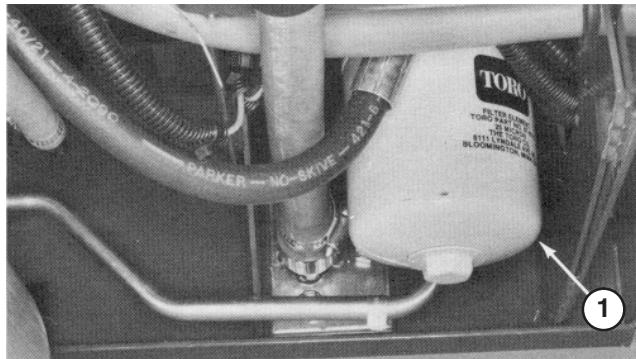

Figure 29
- Remove the oil filter (Fig. 29), mounted below control panel base, and discard the filter. Thoroughly clean the filter mounting surface and make sure that a new gasket is installed in the new filter.